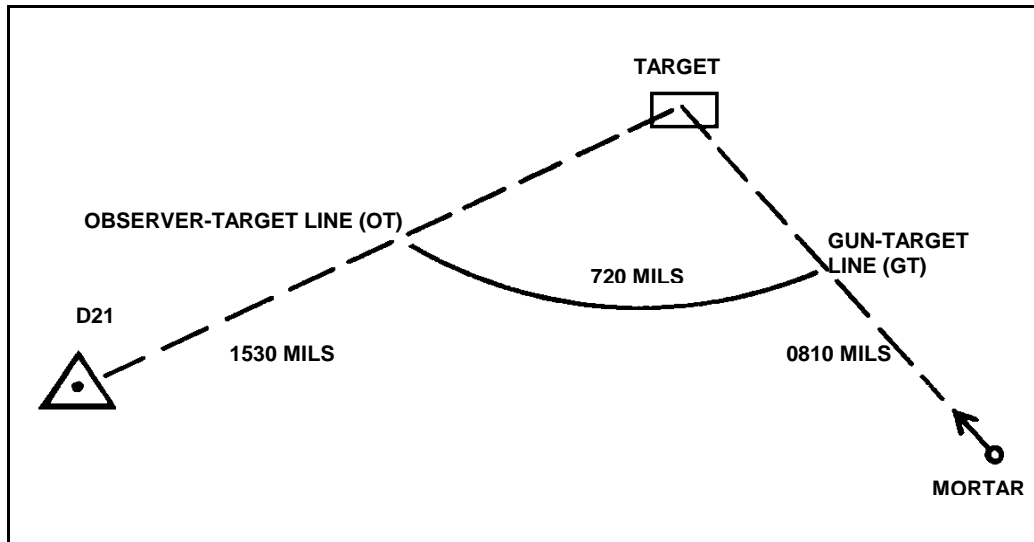

Figure 4-9. Angle T exceeding 500 mils.
b. Because the angle T is over 499 mils in the example above, the FDC would then send a message to the observer that the angle T exceeded 499 mils. Otherwise, there is no need to tell the FO what the angle T is unless he requests it. The observer would use this information before making any correction. When the angle T exceeds 499 mils (Figure 4-9, page 4-12), the FO would continue to use the OT factor to make deviation corrections. However, if it is observed that the correction is more than asked for, the deviation corrections should be reduced proportionately during the mission. Information about the angle T is automatically given to the FO only if it exceeds 499 mils. If the FO wants to know what the angle T is, then the FDC would announce it to the nearest 100 mils.